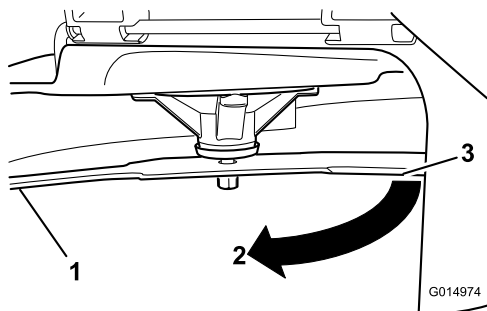

Figure 76
3. Measured distance between blade and the surface (A)
4. Rotate the same blade 180 degrees so that the opposing cutting edge is now in the same position (Figure 76).